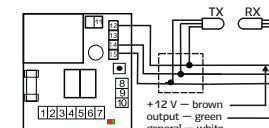

Fig. 5 Connection of optical sensor SIGNAL 12
- optical sensors SIGNAL 12 (fig. 5);